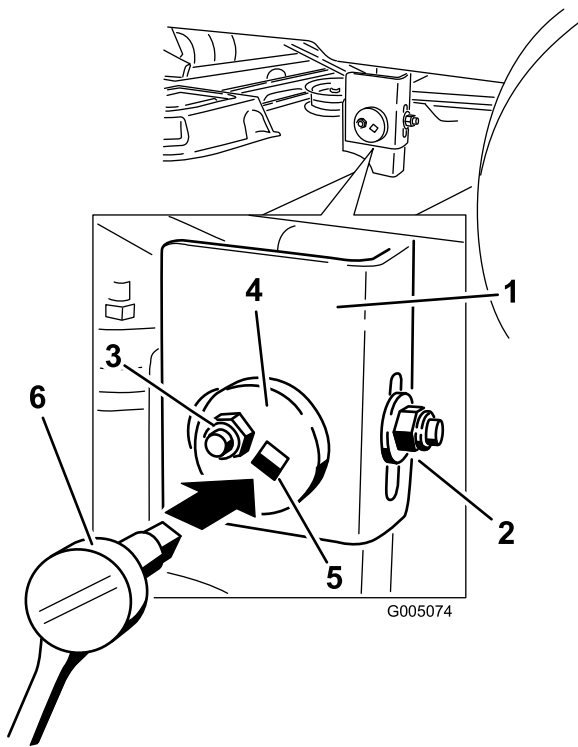

Figure 36
- Move the left side of the machine. Loosen, but do not remove, the rear locking nut on the hanger bracket (Figure 36).
- Loosen the side-locking nut on the hanger bracket just enough so that you can adjust the eccentric plate (Figure 36).
- Stop the deck at the adjusted position and tighten the side-locking nut on the hanger bracket to hold the new position (Figure 36).